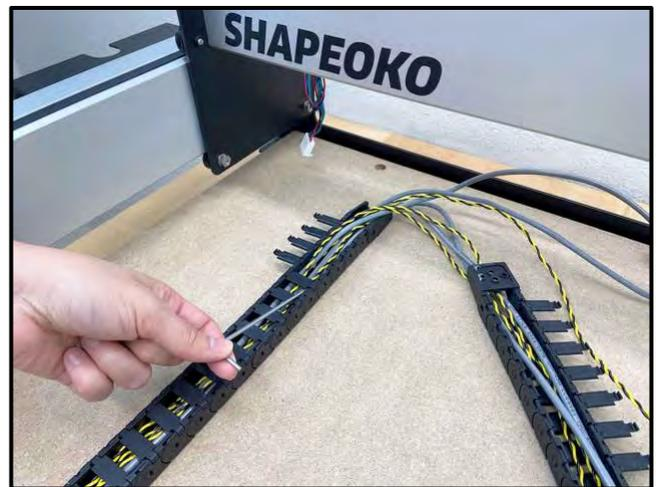
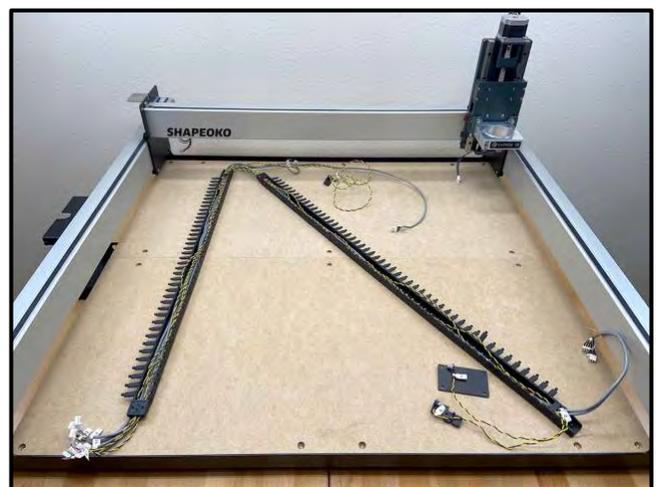

Figure 30
Figure 31
1. Open up the drag chain and remove the three homing switch cables (black/yellow or black/orange twisted wires). See **Fig. 30** and **Fig. 31**.
- a. Position the drag chain on the baseframe as shown in **Fig. 31**, with the chain’s clip-on panels facing up. (Only one side of the chain will open; be sure this side is facing up.)
- b. Use a hex key or screwdriver as a lever to pry open one side of each drag chain link. Start from the rear of the machine and work your way forward as shown in **Fig. 30**.